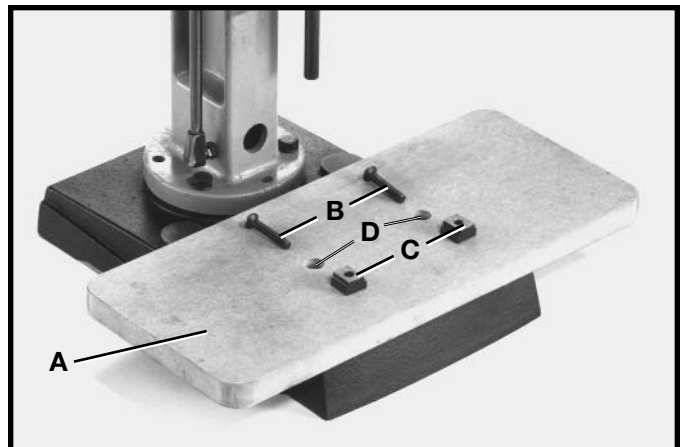

Fig. 7
1. Assemble the table (A) Fig. 7, to the base using the two M6 x 35mm flat head screws (B) and T-nuts (C). Insert the two screws (B) into the two holes (D) in table board (A). Place the two T-nuts (C) into the slots provided in the bottom of the base and tighten the two screws (B) into the two T-nuts (C) securely.
2. The table (A) Fig. 7, can be moved in or out by loosening the two screws (B), and re-positioning the table, and then tightening screws (B).